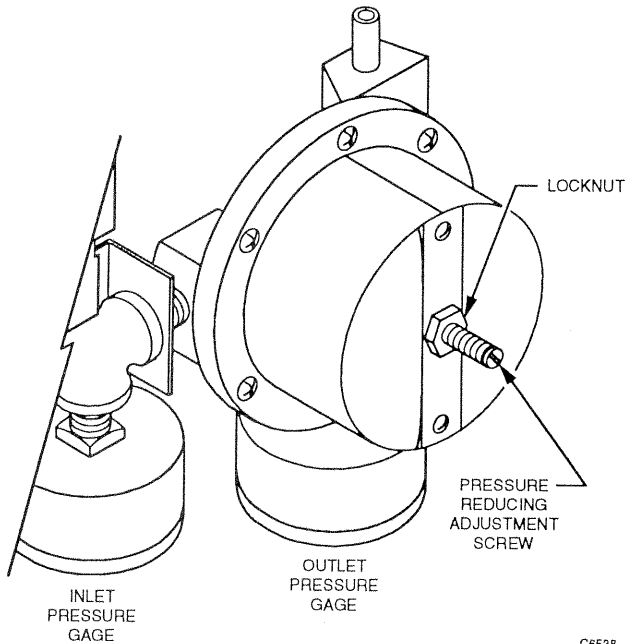

Fig. 6. PP902C Adjustments.
1. Loosen the locknut (Fig. 6) on the pressure reducing adjustment screw.